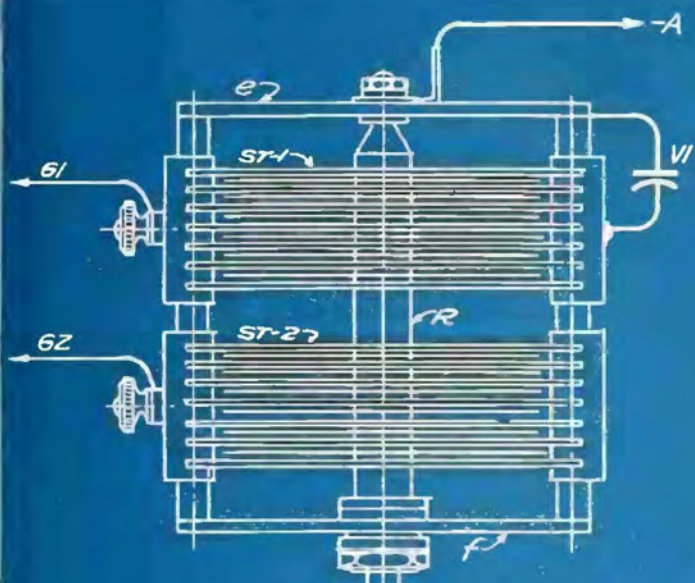

FIG. 4
A "two-gang" condenser is shown by Fig. 4 where the two independent stator units (ST-1, ST-2) are carried by the frame (e-f), and where a single rotor on the shaft (R) meshes with both stator sections. The stators, are of course, insulated from one another and from the rotor. The rotor connection (-A) goes to the (-A) line and ground while the stator sections connect with the grids of two tubes at (G1) and (G2). If three tubes are to be controlled, then a second